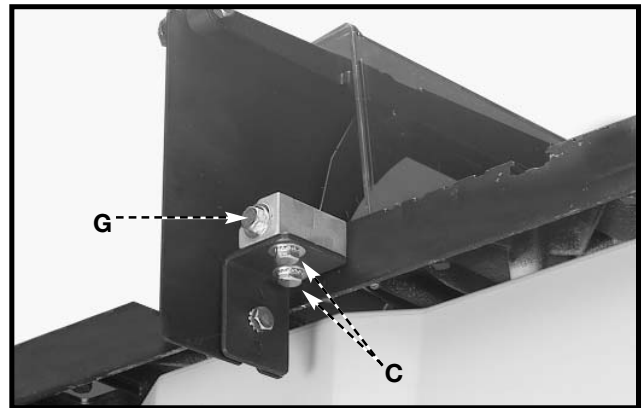

Fig. 17
9. When the splitter is properly aligned with the saw blade, tighten the screws (C) and (G) Fig. 17.